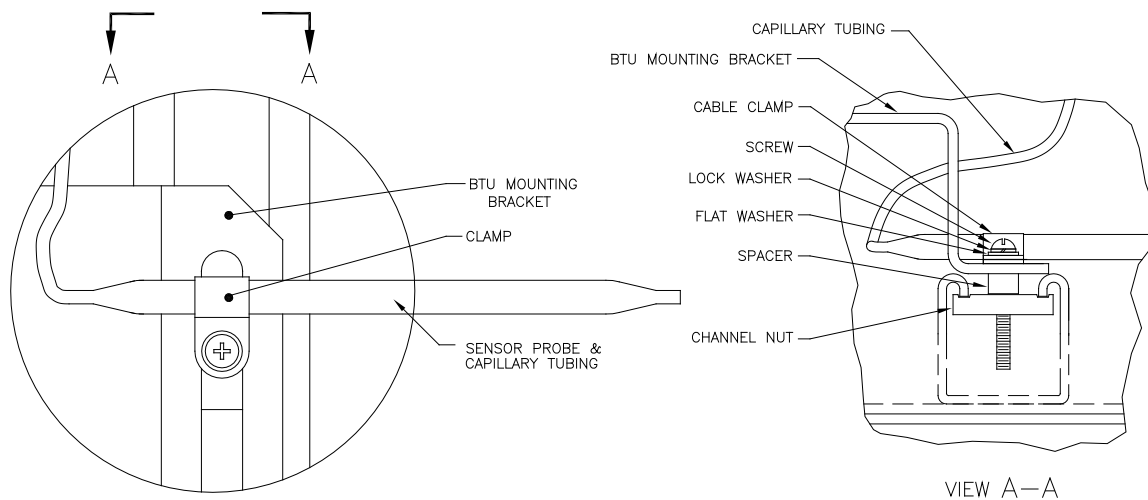

Figure 3-51 Temperature Probe Installation
- 17) Gently uncoil the temperature probe capillary tubing from the thermostat and insert through the hole located below the thermostatic gas valve, being careful to not crimp or make sharp bends in the capillary tubing (see Figure 3-51).
- 18) Remove mounting screw and washers from the right rear NGC mounting bracket (see Figure 3-51).
- 19) Insert the screw with washers still in place through the hole located on the mounting clip and re-insert through the mounting bracket into the channel nut (see Figure 3-51).